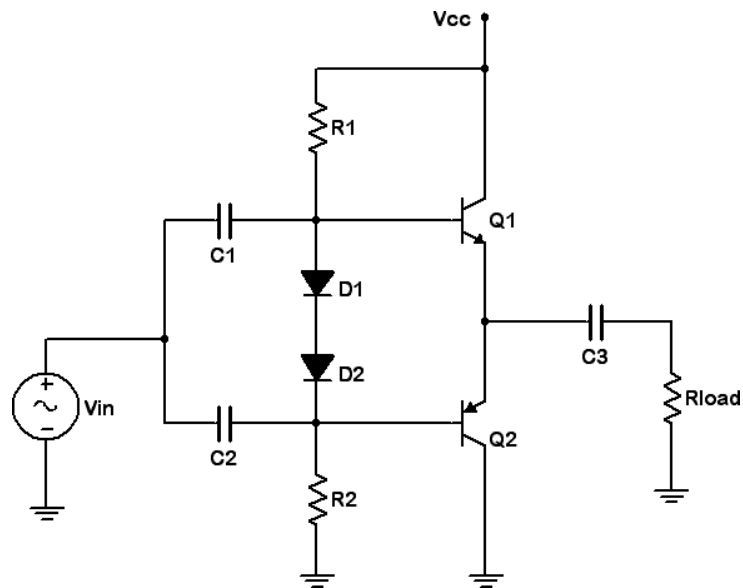
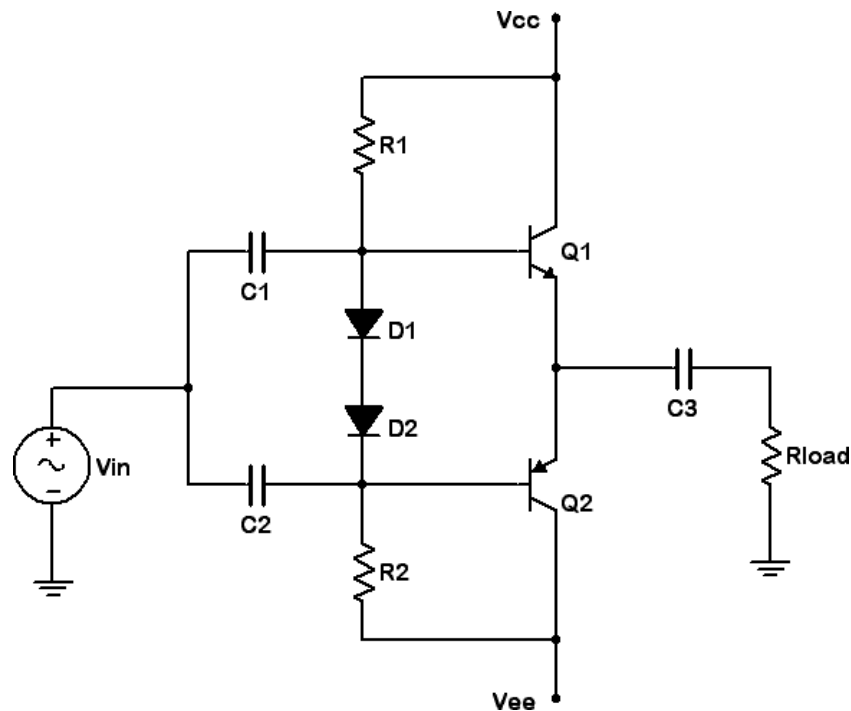

Figure 2
Figure 3
5. Replace  $R_3$  and  $R_4$  with switching diodes, as shown in Figure 2. Repeat steps 2 through 4 using this circuit and Table 2. Overall, the superior matching of the diodes to the transistors should result in decreased notch distortion.
6. Add the negative power supply so that the circuit now appears as Figure 3. Set the power supplies to  $\pm 6$  volts DC. This should produce similar bias and amplification results to the single 12 volt supply circuit of Figure 2. Although the output coupling capacitor is no longer needed (one advantage of the dual supply topology), leave it in for safety sake.